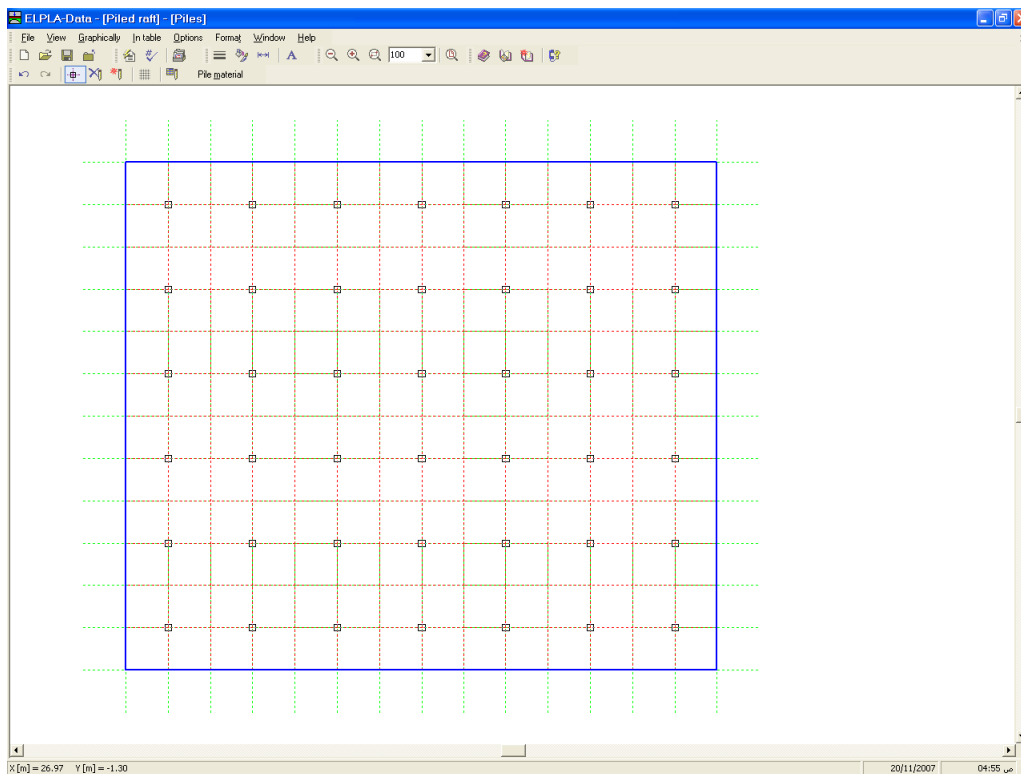
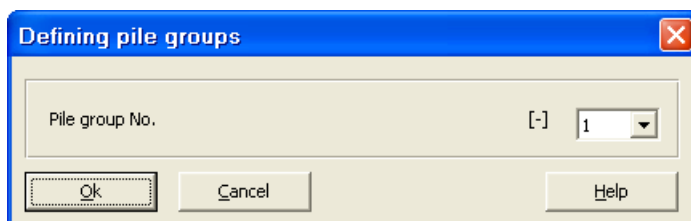

Figure 12-17 Selection of nodes that have piles
Figure 12-18 "Defining pile groups" dialog box
- Select nodes those have piles as shown in Figure 12-17
- Choose "Add piles" command from "Graphically" menu in Figure 12-17. The "Defining pile groups" dialog box in Figure 12-18 appears. In this dialog box click "OK" button